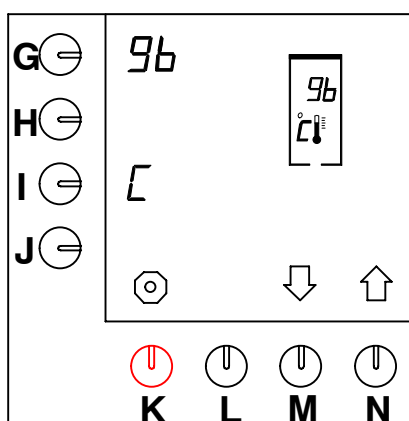

Fig. 40 Setting the temperature
- Press, after having entered the principal user PIN code, 3 time selection key (N.)↑ until fig.40 appears on the display.
- Press, after having entered the principal user PIN code, 3 time selection key (N.)↑ until fig. 40 appears on the display.